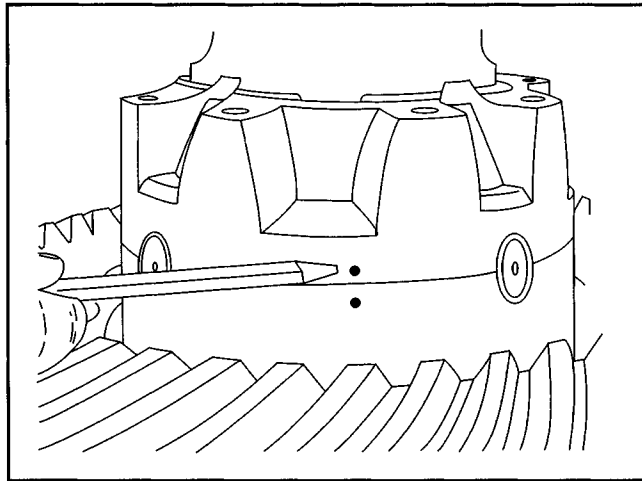

Figure 4
1. Match mark differential case halves with punch or chisel for correct alignment during reassembly (See Figure 4).